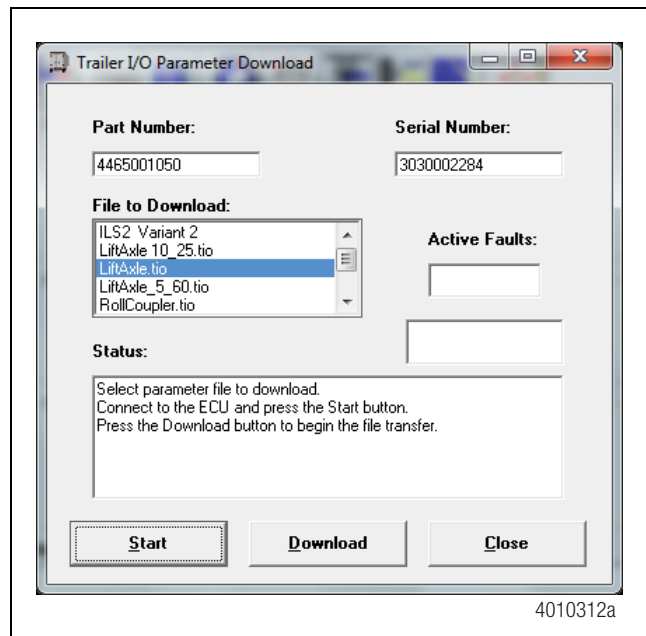

Figure 14
2. From the Parameter Download screen, select "LiftAxle.tio". Press the **Start** button and it will enable the **Download** button. Press the **Download** button to begin the process. Figure 14.